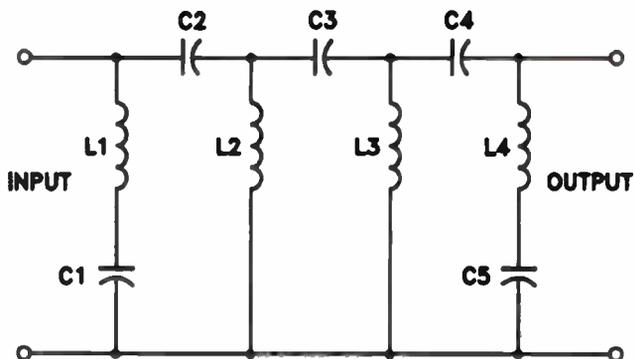

Figure 18. A high-pass filter.
**High-Pass Filters.** Figure 18 is a diagram of a high-pass filter. This filter is designed to pass signals above the cutoff frequency and to attenuate signals below the cutoff frequency.